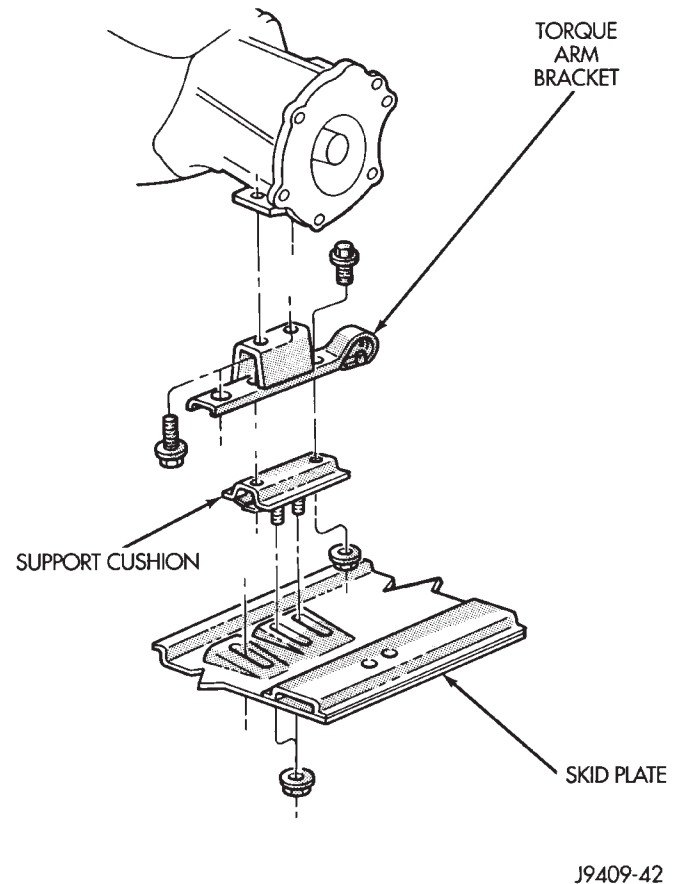

Fig. 12 Rear Mount—YJ Vehicles (Automatic Transmission)
(4) AUTOMATIC TRANSMISSION (Fig. 12):